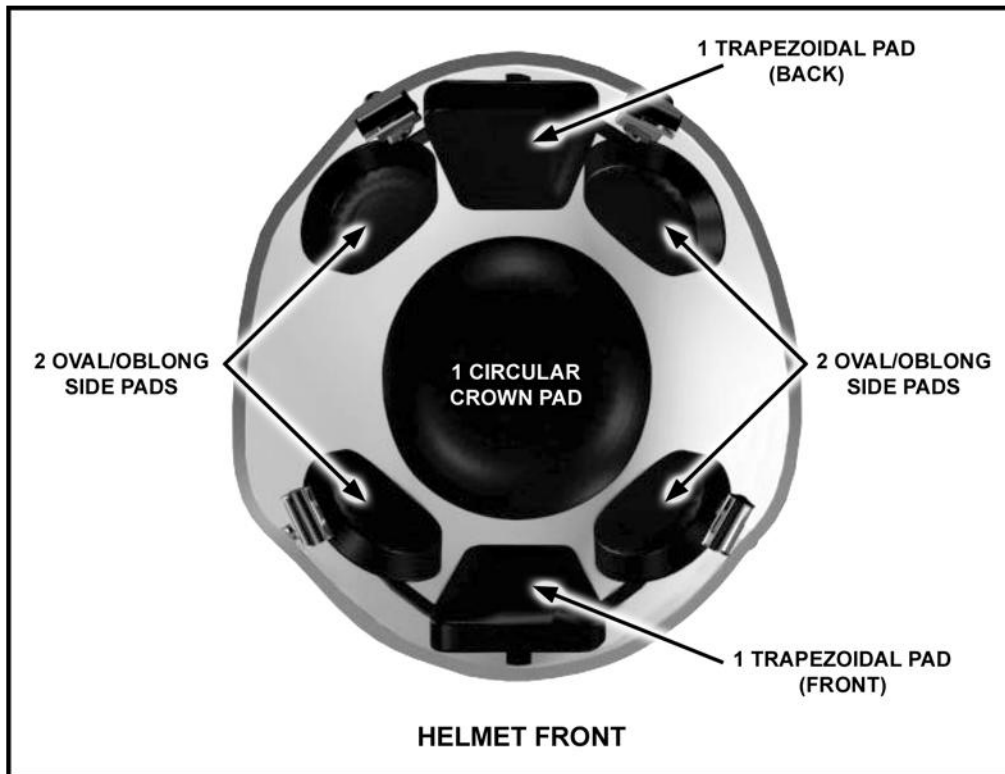

Figure 2-14. ACH pads.
a. **Helmet Assembly.** The ACH has a unique, fully adjustable pad suspension system. All seven pads are worn with the helmet (Figure 2-14).